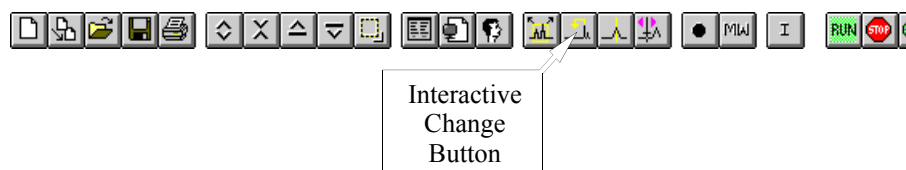

Figure 17-22 The Interactive Change of Center Field Parameter button in the Tool Bar.
12. **Set the center field.** To interactively set the center field, click the Interactive Change of Center Field Parameter button in the tool bar.(See Figure 17-22.)